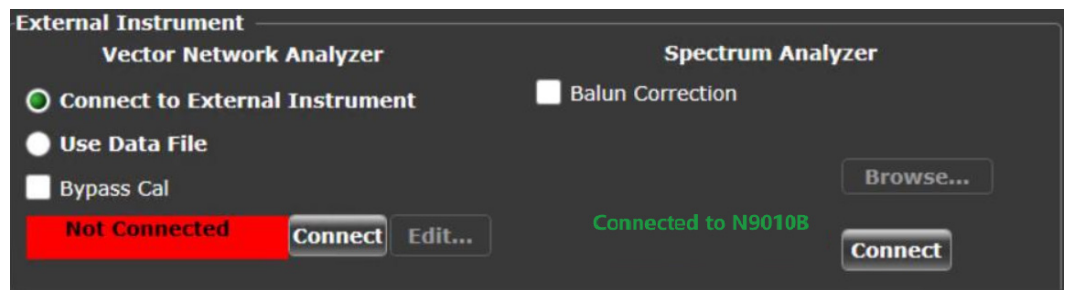

Figure 30 Connection status after the Test App detects the Spectrum Analyzer
- 12 Once the 25GBASE-T Ethernet Test Application detects the Spectrum Analyzer, it is indicated on the **Set Up** tab as shown in Figure 30.